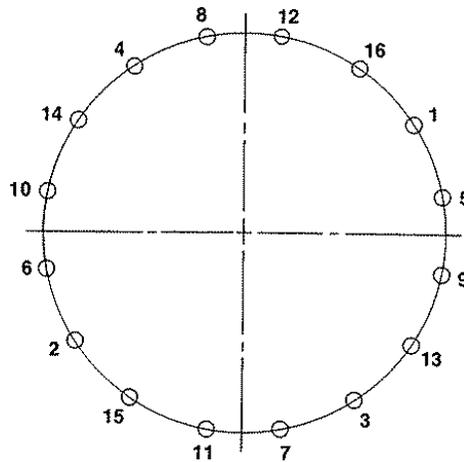

Figure 19
Prior to lowering the bonnet (002) into position, a new gasket should be placed in the gasket groove on the body flange. Carefully insert the stem into the backseat bushing in the bonnet and lower it into position on the body. In lowering the bonnet, be careful that neither the backseat nor the stem are scratched or gouged. Damage to either of these surfaces can impair their sealing ability. If orientation of the actuator is important, the bonnet should be rotated to its proper position prior to lowering it onto the gasket. With the bonnet in place, the studs (200) and nuts (230) can be installed. Prior to installation the studs and nuts should be cleaned and thoroughly lubricated with a high quality lubricant. Any nuts or studs with damaged threads should be replaced. It is very important that the body-bonnet bolting be torqued to specific values in accordance with a specific procedure. The torque values are shown on page 9, Table TA-108-2 for various diameter studs. The nuts should be tightened evenly using a criss-cross pattern similar to the one shown in Fig. 19. Tighten all of the nuts to 1/3 of the recommended valve initially. Then repeat the sequence raising the torque to 2/3 of the full torque. Finally, torque all the nuts to the recommended value following the criss-cross pattern. It is essential that the flange faces remain parallel and all the bolting has uniform tension. Failure to achieve this may cause gasket weepage when the joint is subjected to operating pressures and temperatures.